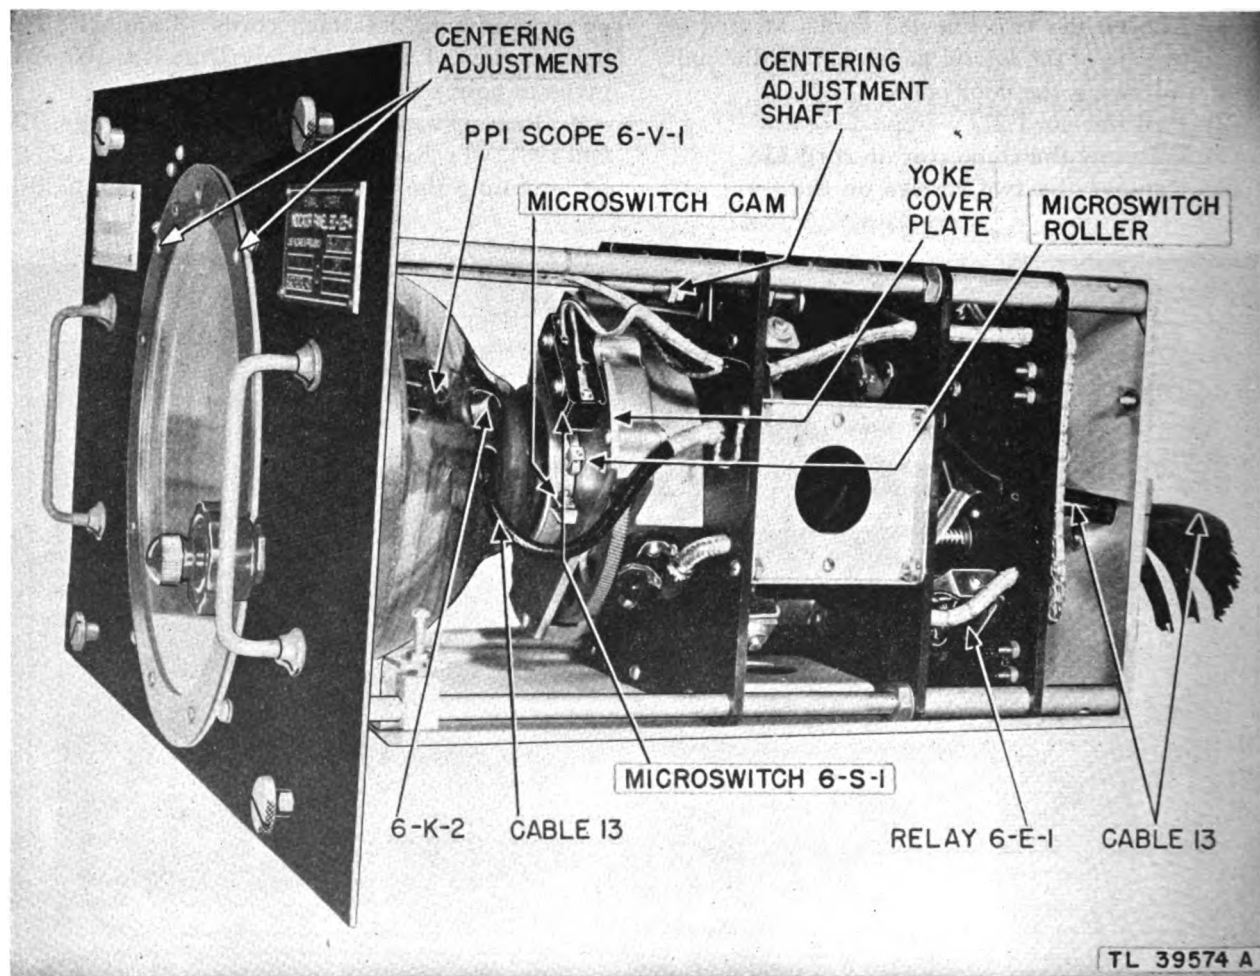

Figure 197. Indicator Panel BD-123-A, right side.
d. **REPLACEMENT OF PPI TUBE 6-V-1** (figs. 197 and 198). (1) Remove Indicator Panel BD-123-A by loosening the four thumbscrews which hold it